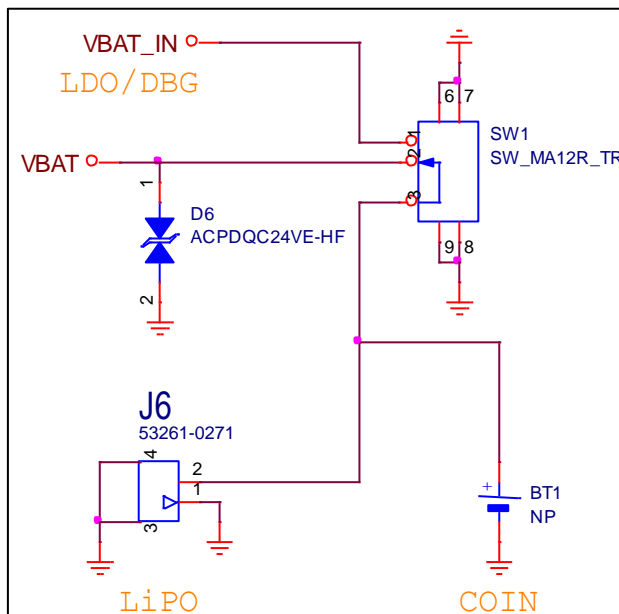

Figure 10: Power Options
- Battery/Power connectors (Figure 10):